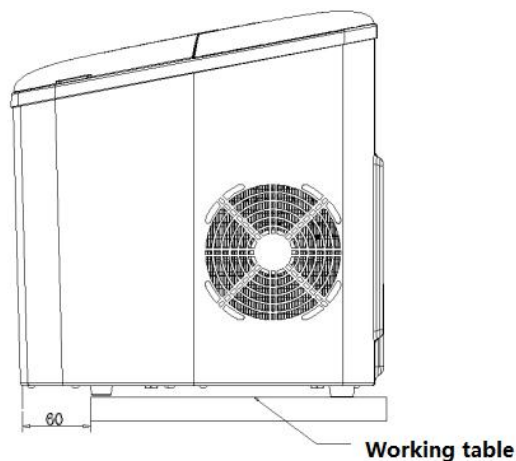
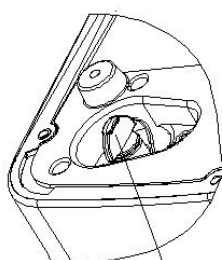
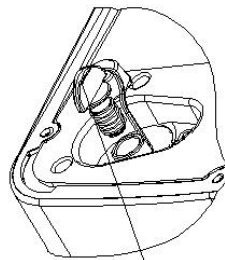

Fig. 4
Fig. 5
Fig. 6
3.Move the appliance forward to a place 60mm away from the working table and open the drain plug to drain out excess water (see Fig.4, Fig.5 and Fig.6).